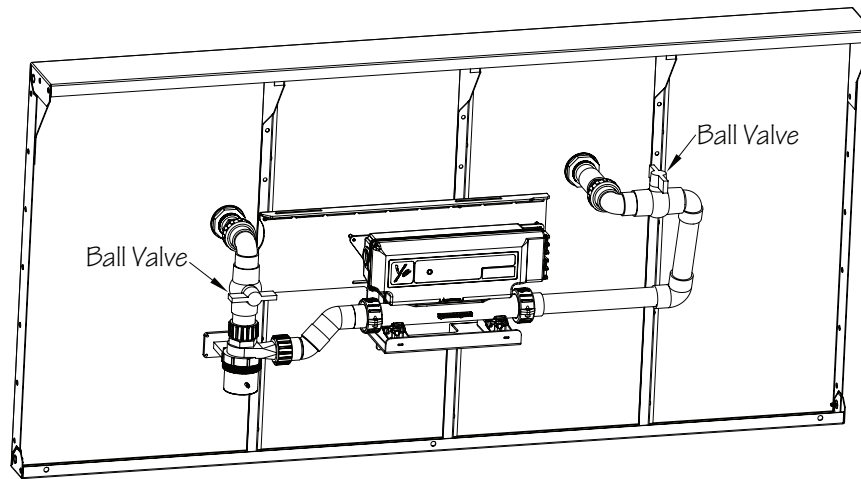

Fig. 3
3. Isolate the Water Quality System equipment from the pool water by closing the Ball Valve before the pump and Ball Valve on the return side of the plumbing. The valve is fully closed when it is perpendicular with the plumbing as shown in Figure 3.